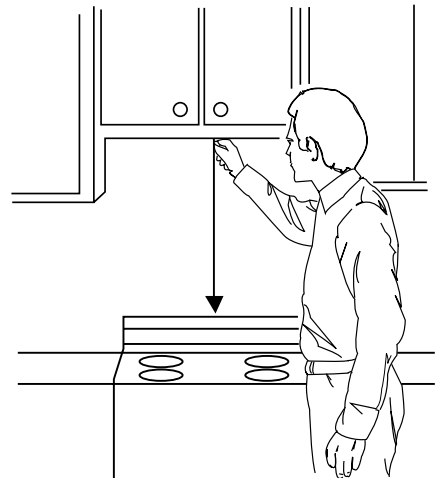

Figure 26
1. Using a plumb line and (metal) measuring tape, find and mark the vertical center line on the back wall, as in Figure 26.
4. Center the rear wall template in the space by lining up the plumb line on wall with centerline on template. Then securely tape or tack the rear wall template in place. Make sure the minimum width is 30 inches and that the top of the rear wall template is located a minimum of 30 inches above the cooking surface. See Figure 26.
1. Center the rear wall template in the space by lining up the plumb line on wall with centerline on template. Then securely tape or tack the rear wall template in place. Make sure the minimum width is 30 inches and that the top of the rear wall template is located a minimum of 30 inches above the cooking surface. See Figure 26.